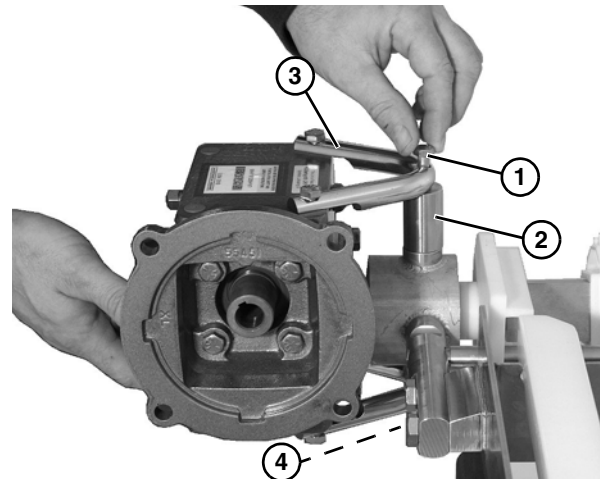

Figure 55
4. Remove top bolt (**Figure 55, item 1**) and spacer (**Figure 55, item 2**) holding the bracket (**Figure 55, item 3**) to the drive assembly.
5. Remove bottom bolt (**Figure 55, item 4**).